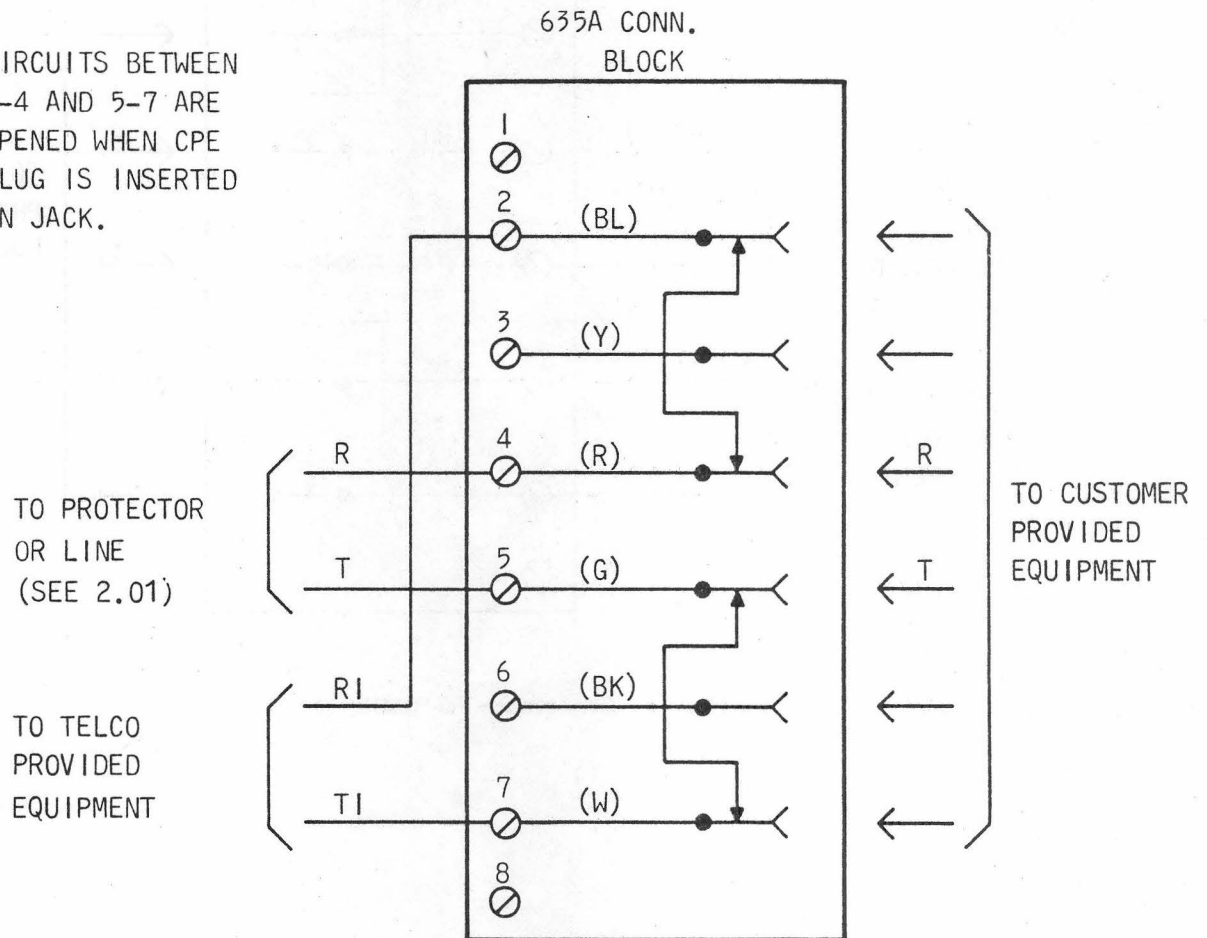

Fig. 1—Connections for USOC RJ31X
2.01 USOC RJ31X: This arrangement is wired so that when the CPE is plugged into the 635A connecting block, the CPE is placed in series with the tip and ring of the line (Fig. 1). When the CPE plug is removed, tip and ring are cut through to the station equipment. ***The 635A connecting block must be wired in the circuit ahead of all station equipment, to prevent false operation of the registered device, and to cut off all station equipment from the line.***